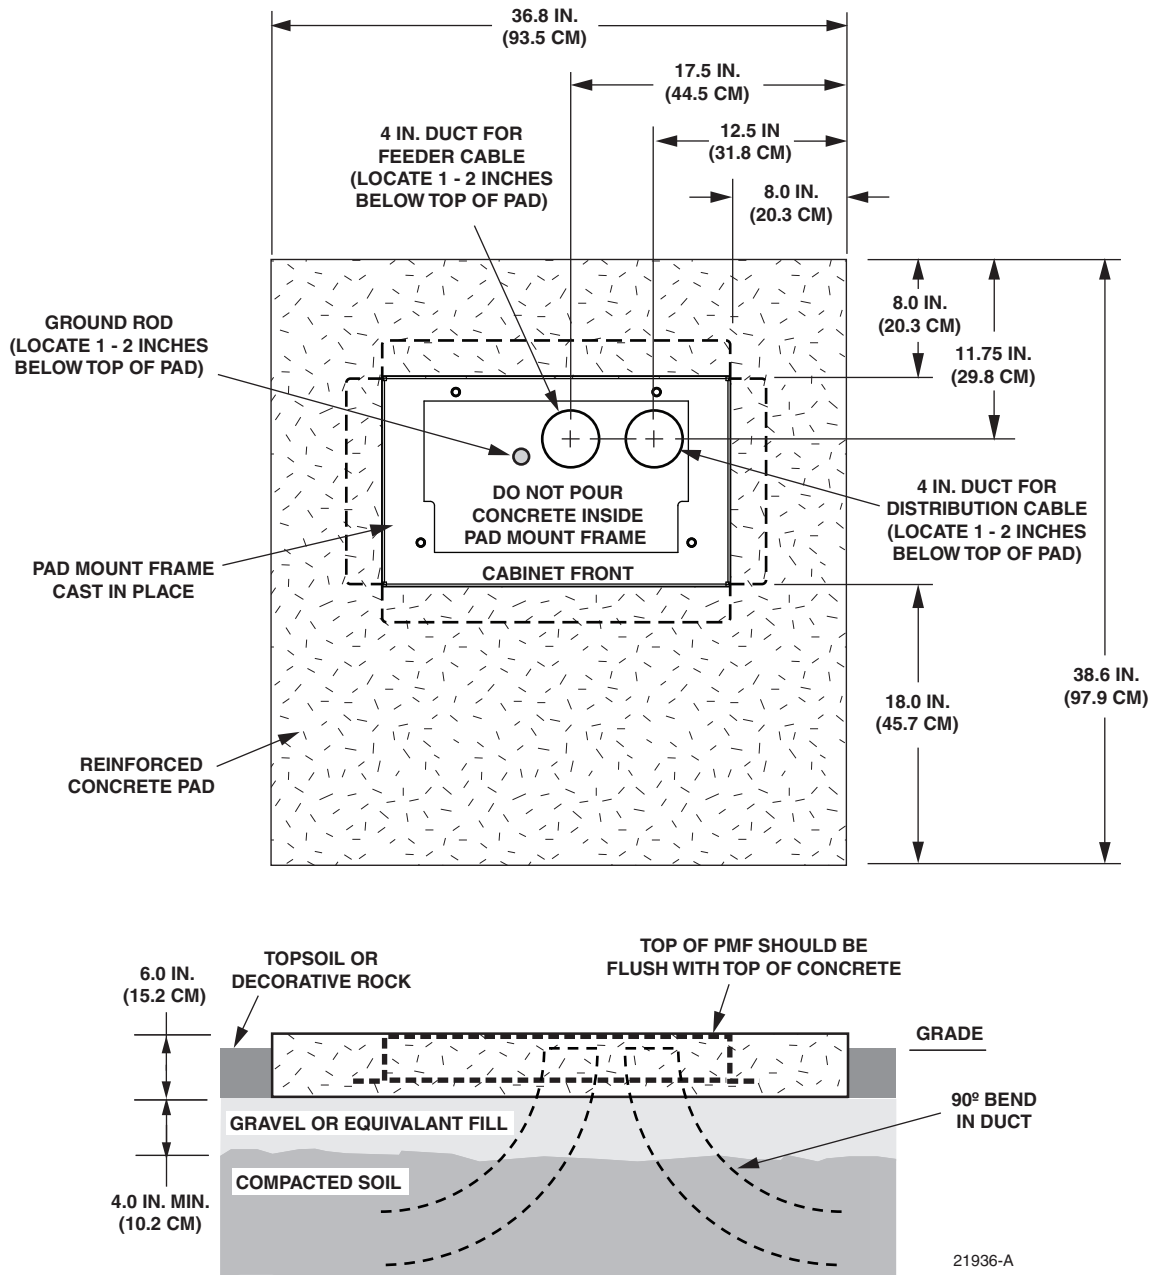

Figure 10. Constructing the Concrete Pad
The base must have a footing of 4 to 6 inches (10.2 to 15.2 cm) of sand or gravel (per local practice) on firmly compacted soil. Refer to the construction diagram in Figure 10 for details. Install the cable conduit from below and position it so that the top of each upward bend will be located within the PMF opening at the indicated point.
2. Locate the PMF as shown in the construction diagram (see Figure 10). When installed, the top surface of the PMF must be flush and level with the top of the concrete pad.
Install a grounding system (not provided) that meets all local electrical codes. Check local codes for grounding system installation, use of clamps, wire size, and any other grounding requirements. Typically, #6 AWG copper wire is used for the ground wire. If the grounding system includes a ground rod, install the rod (see Figure 10) within the PMF opening at the indicated point. When installed, the top of the rod should be located 1 to 2 inches (2.54 to 5.08 cm) **below** the top of the finished concrete pad. Leave sufficient slack in the grounding wire to allow it to be routed into the cabinet after the cabinet is mounted on the pad.